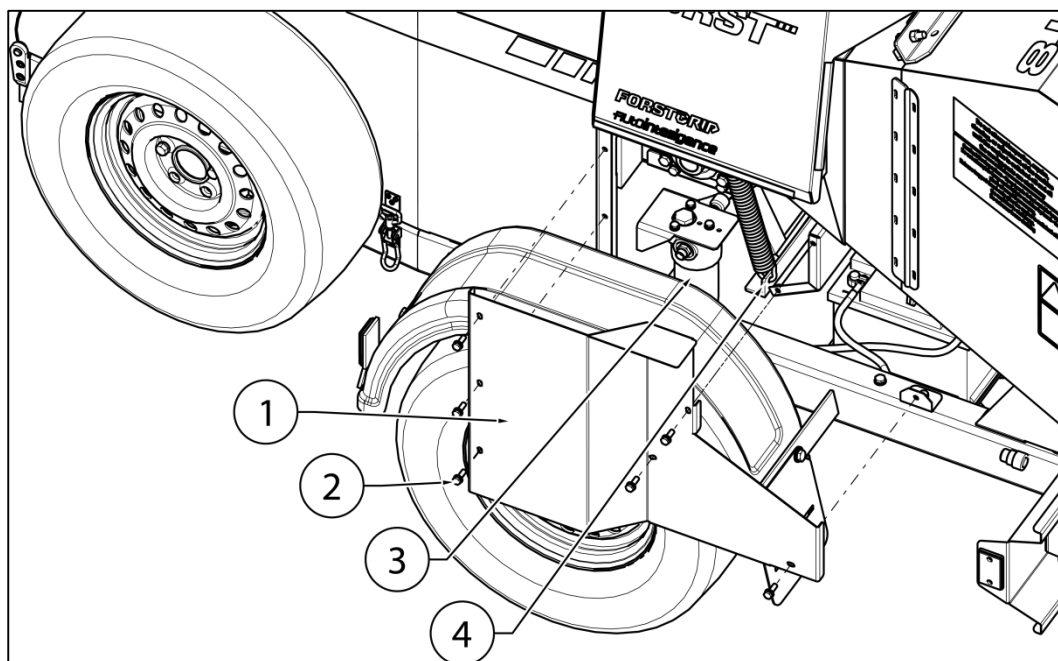

Figure 9
1. The filter housing is accessed via the left side panel (see covers Figure 9). Thoroughly clean around filler housing before removing to help prevent debris getting into oil.